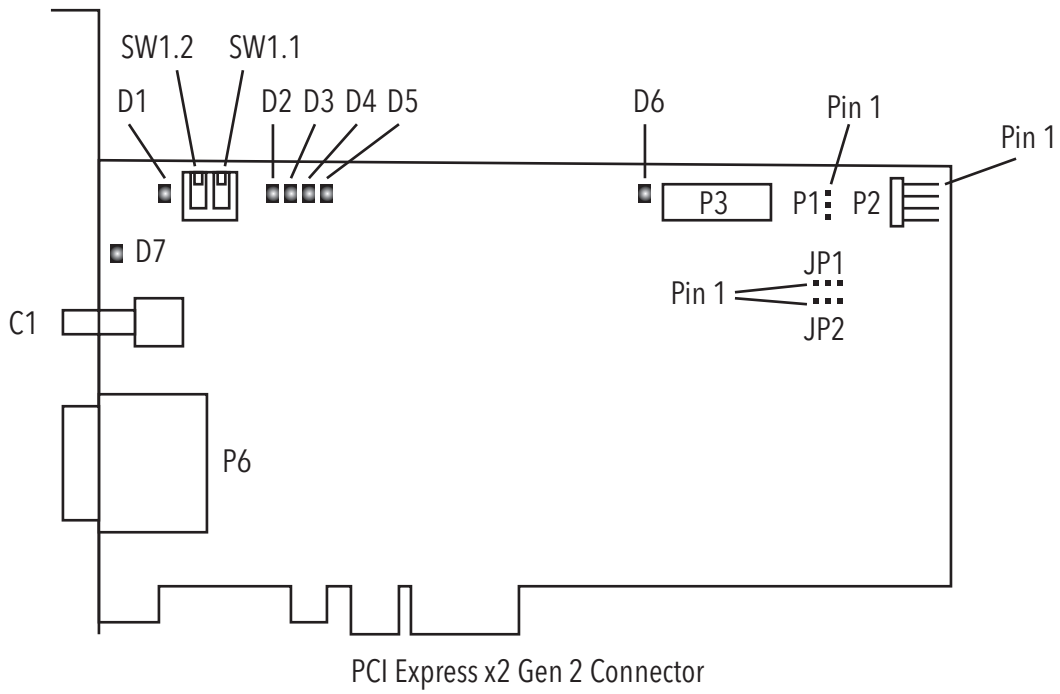

Figure 13-1 Aon-CXP Board Layout
Aon-CXP1	Figure 13-1
Figure 13-1 shows the locations of these connectors. The following sections show the details of each of these connectors.
*Note: This jumper is marked "P1" on the laminate. There is another jumper on the Aon marked JP1, which serves a different function. Please see Figure 13-1 for the location of the Jumper P1.*